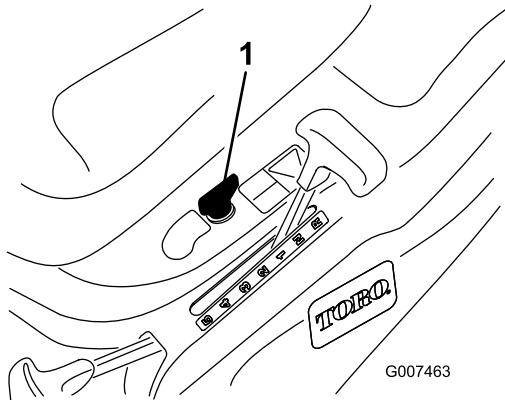

Figure 14
If you need to use the blade control (PTO) while backing up, turn off the interlock feature using the KeyChoice switch located near the seat bracket (Figure 14).
2. Insert the KeyChoice key into the switch (Figure 14).